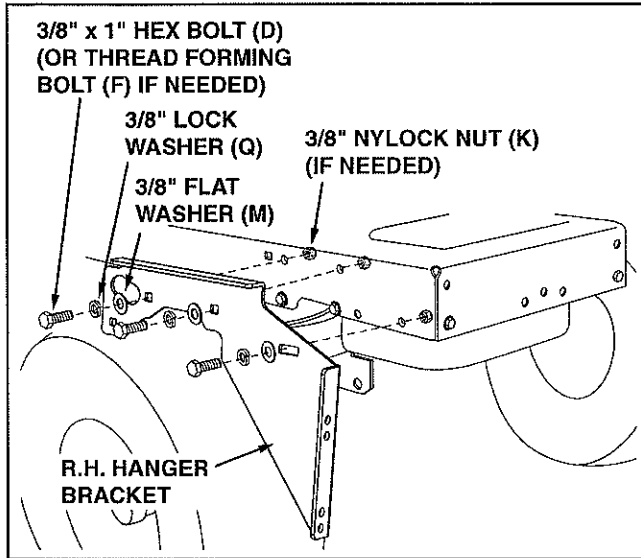

FIGURE 8
13. Attach the R.H. hanger bracket to the three holes shown on the side of the tractor frame using three 3/8" x 1" hex bolts (D), 3/8" lock washers (Q) and 3/8" flat washers (M). Use 3/8" nylock nuts (K) on inside of frame if bolts insert freely into holes. **Tighten.** See figure 8.